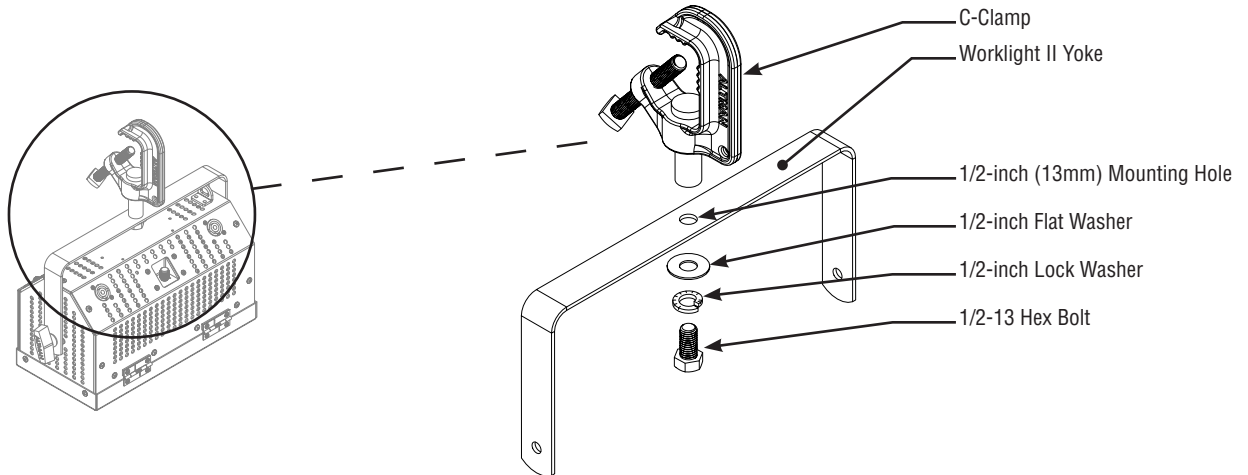

Figure 2: C-Clamp Installation
The provided c-clamp should be installed as shown in **Figure 2**. Only use the hardware supplied with the c-clamp.
1. With luminaire on a flat, sturdy surface, position yoke assembly for easy access as illustrated in **Figure 2**.